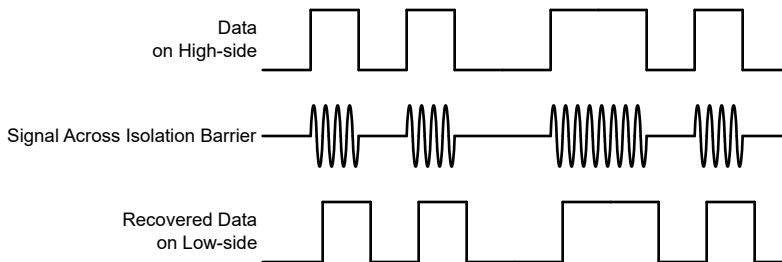

Figure 6-4. OOK-Based Modulation Scheme
The AMC22C11 uses an on-off keying (OOK) modulation scheme, as shown in Figure 6-4, to transmit the comparator output states across the SiO₂-based isolation barrier. The transmit driver (TX) shown in the Functional Block Diagram transmits an internally-generated, high-frequency carrier across the isolation barrier to represent a digital *one* and does not send a signal to represent a digital *zero*.